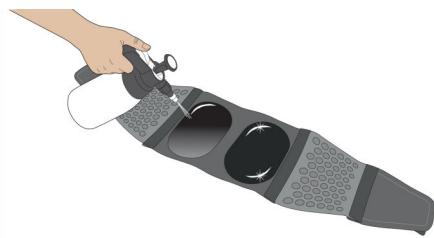

Fig. 48: i-body® belt with buttocks electrodes
20. ► Moisten the electrodes of the i-body® belt (Fig. 48).